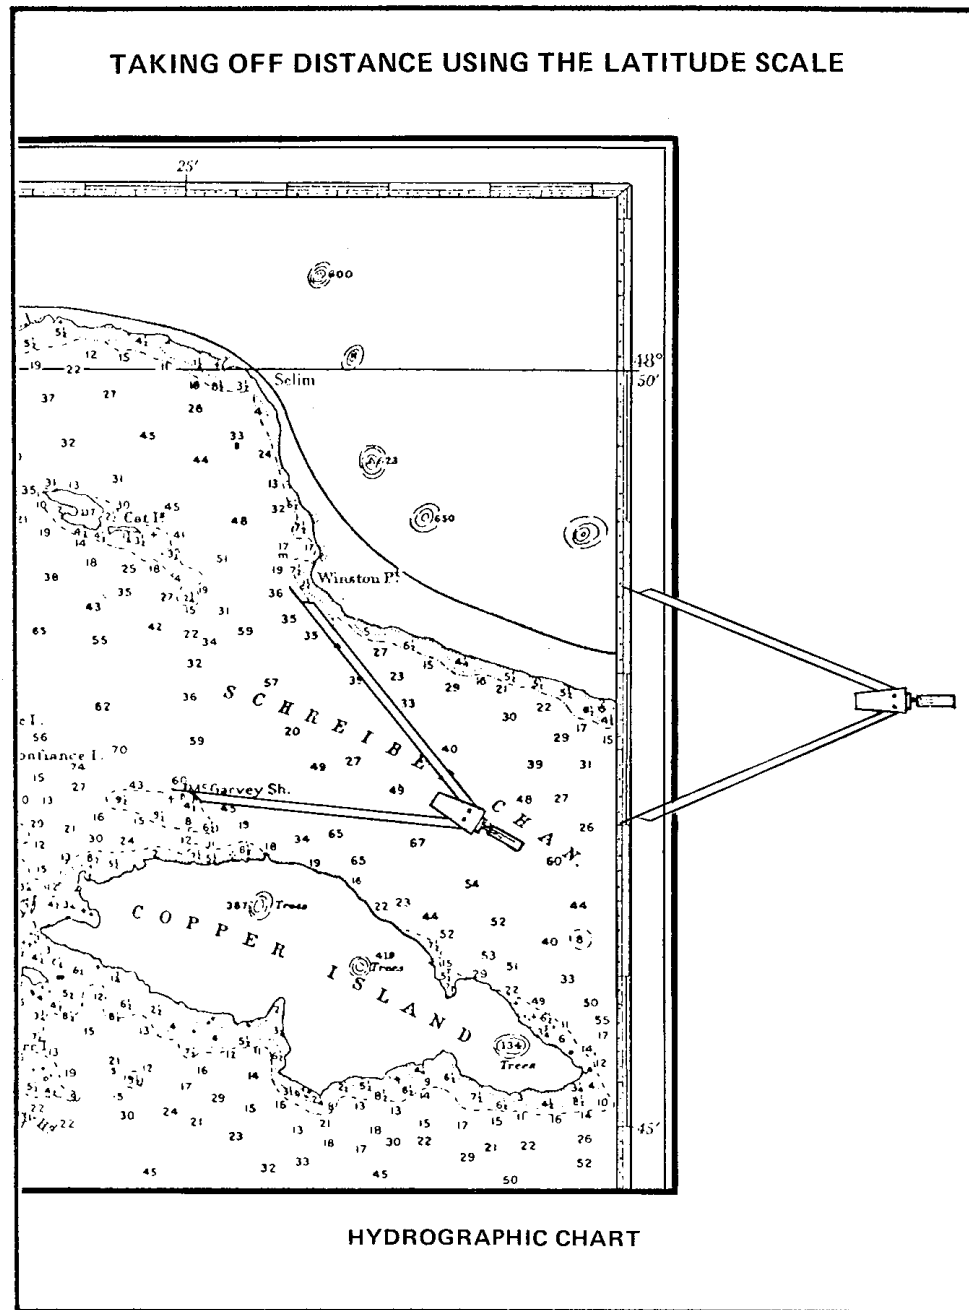

Figure 7-10 Taking Off Distance Using the Latitude Scale
31. **Scales of Distance** — (See Figure 7-10.) Because one minute of latitude equals one nautical mile, the latitude scales on the vertical edges of the chart are also **scales of distance**. The separation, on the chart, of two points can be marked on a strip of paper and transferred to the **latitude scale**, where it can be read off in **miles and tenths of miles**. Should the chart construction be such that this is not so, a distance scale will appear on chart.